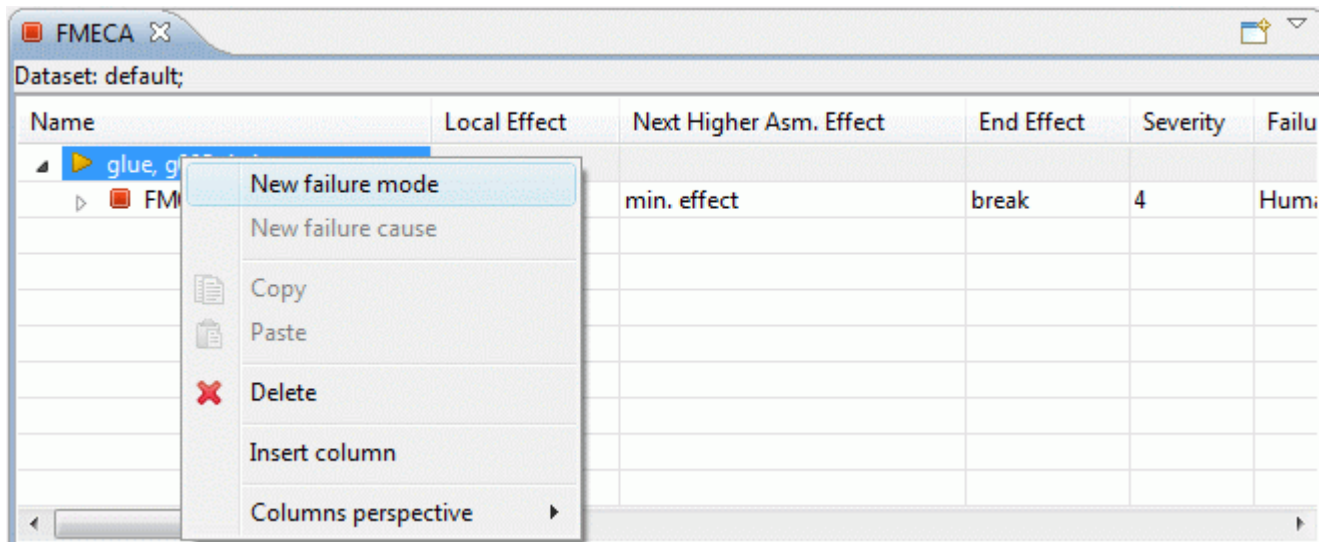

Figure 1. Context sensitive menu with selected New failure mode menu item
- Select the **New failure mode** menu item in the appeared context sensitive menu (see Figure 1).